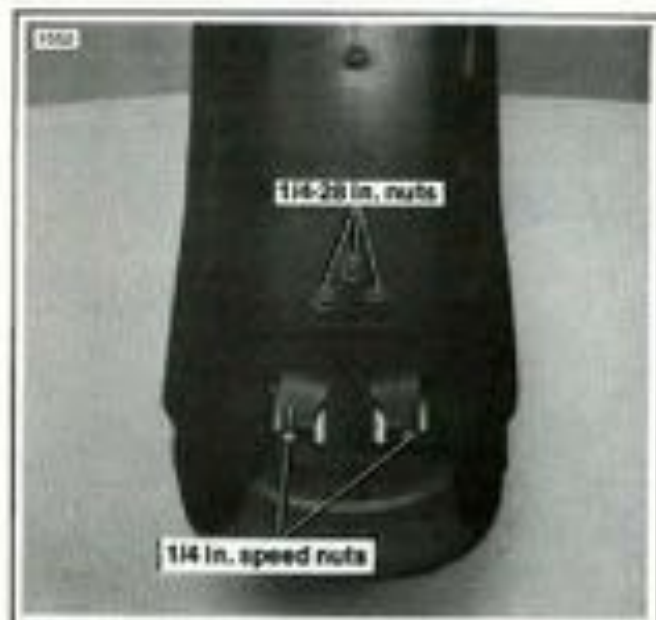

Figure 2-130. Taillight and License
6. See Figure 2-130. Remove and discard the two 1/4 in. speed nuts securing the taillight assembly, transfer the assembly to the new fender and install it using new 1/4 in. speed nuts. Route the wiring harness to the front of the fender, securing it under the wire clips.
8. See Figure 2-130. Remove the three 1/4"-28 nuts securing the license plate bracket and transfer the assembly to the new fender. Tighten the screws to 6 ft-lbs torque.